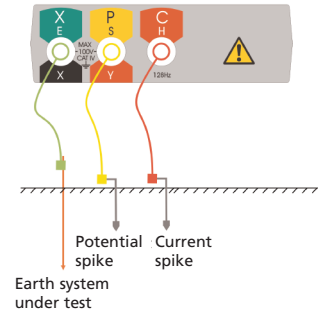

Figure 16: Connections for measuring three-terminal ground rod resistance
1. With the selector switch in the 'OFF' position, connect the instrument as shown in Figure 16.